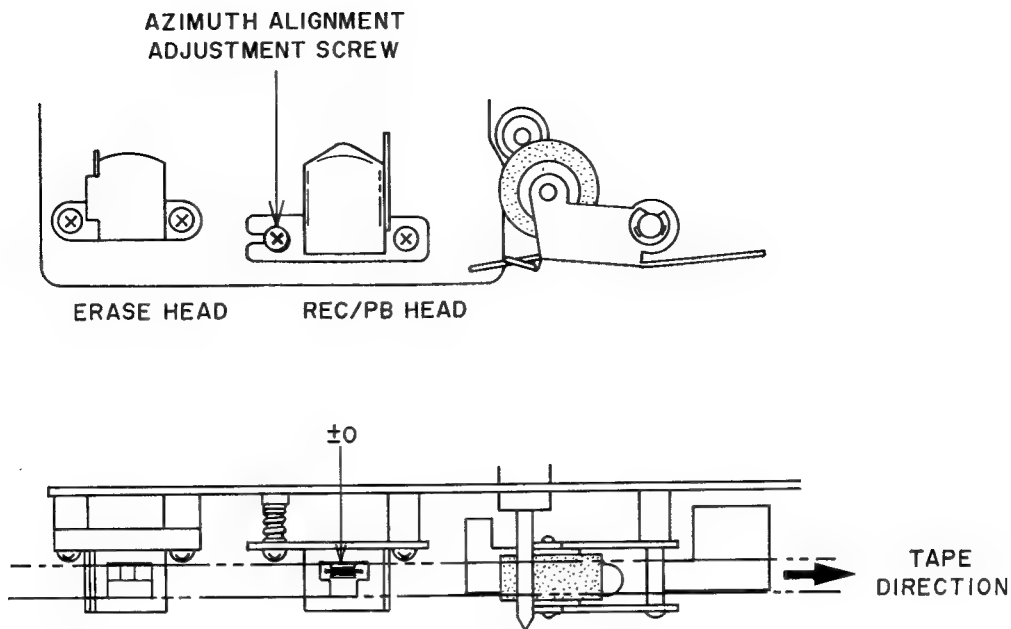

Fig. 8 Head Adjustment
- a) Playback a 10 kHz pre-recorded cassette azimuth alignment test tape and adjust screw shown in Fig. 8 to obtain maximum output on both channels.